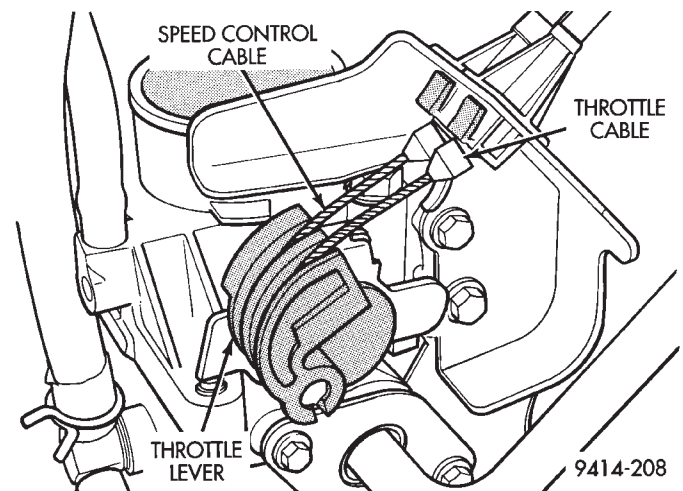
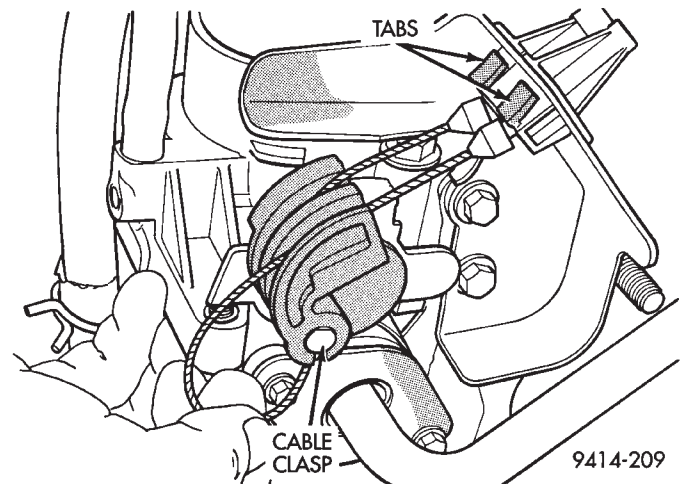

Fig. 38 Throttle Cable Attachment to Throttle Body
Fig. 39 Disconnecting Throttle Cable
- (1) Working from the engine compartment, remove the throttle cable from the throttle body lever (Fig. 38) and (Fig. 39).
- (2) Compress the retaining tabs on the cable and slide cable out of bracket (Fig. 39).
- (3) From inside vehicle, reach behind the top of the pedal shaft and push the retainer toward rear of vehicle. It may be necessary to squeeze retainer ears together on dash side of pedal shaft.
- (5) From the engine compartment, rotate the throttle lever forward to the wide open position and install cable clasp (Fig. 39).